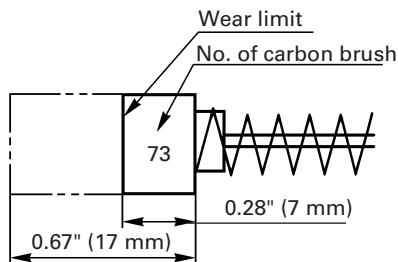

Fig. 20
4. Inspecting the carbon brushes: (Fig. 20)
NOTE: Use HITACHI carbon brush No.73 indicated in Fig. 20.